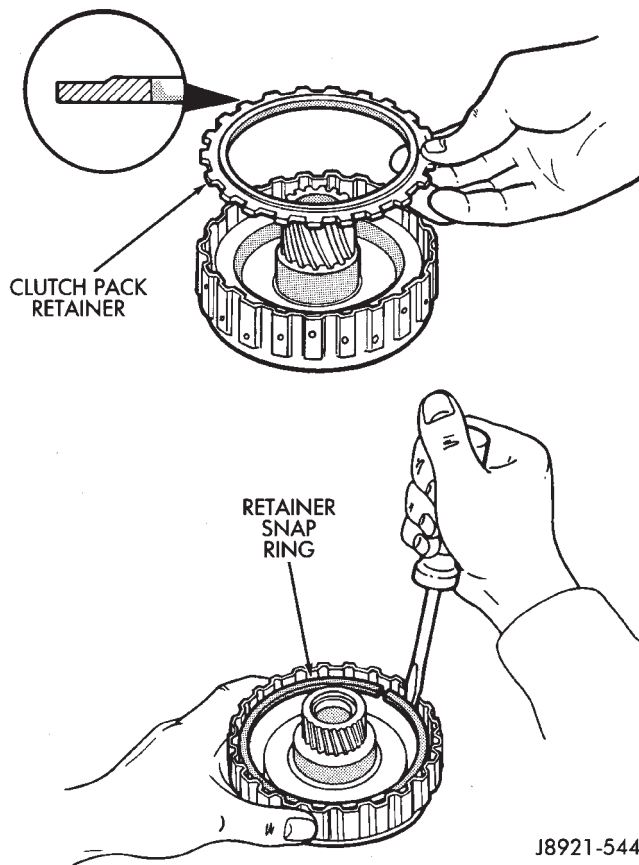
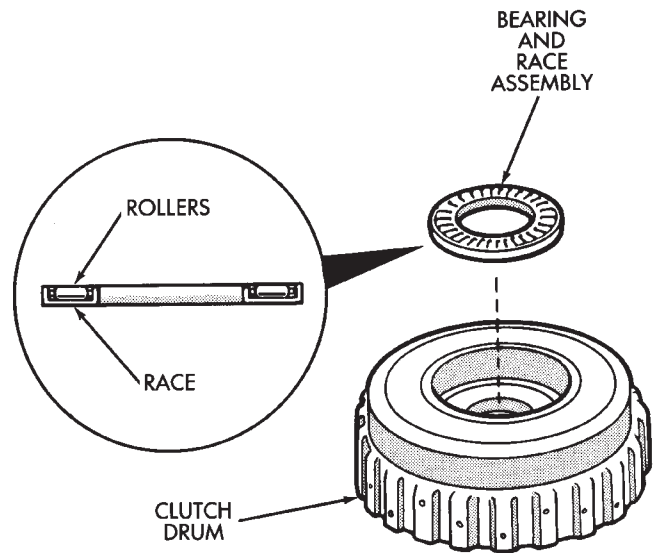

Fig. 26 Installing Retainer And Snap Ring
Fig. 27 Installing Clutch Drum Bearing And Race Assembly
(13) Install clutch pack retainer with flat side facing downward. Then install retainer snap ring (Fig. 26). Compress springs with suitable tool.
(14) Measure clutch piston stroke length again (refer to procedure outlined in transmission disassembly). If stroke length is incorrect, install new clutch discs or select fit retainer. Retainer thicknesses are outlined in the Specifications section.
(15) Install clutch drum bearing and race assembly (Fig. 27). Be sure bearing rollers face upward as shown. Outside diameter of assembled bearing and race is 50.2 mm (1.976 in.). Inside diameter is 28.9 mm (1.138 in.).